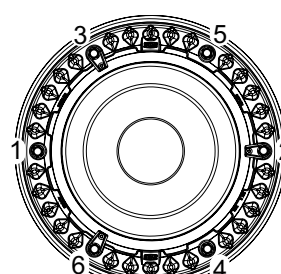
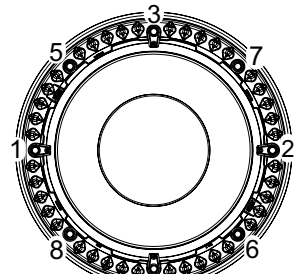

Fig. 1a
Fig. 1b
e. Apply provided jam nuts onto the threaded rods and hand tighten down in a star pattern progressively. (Fig 1a, Fig 1b)